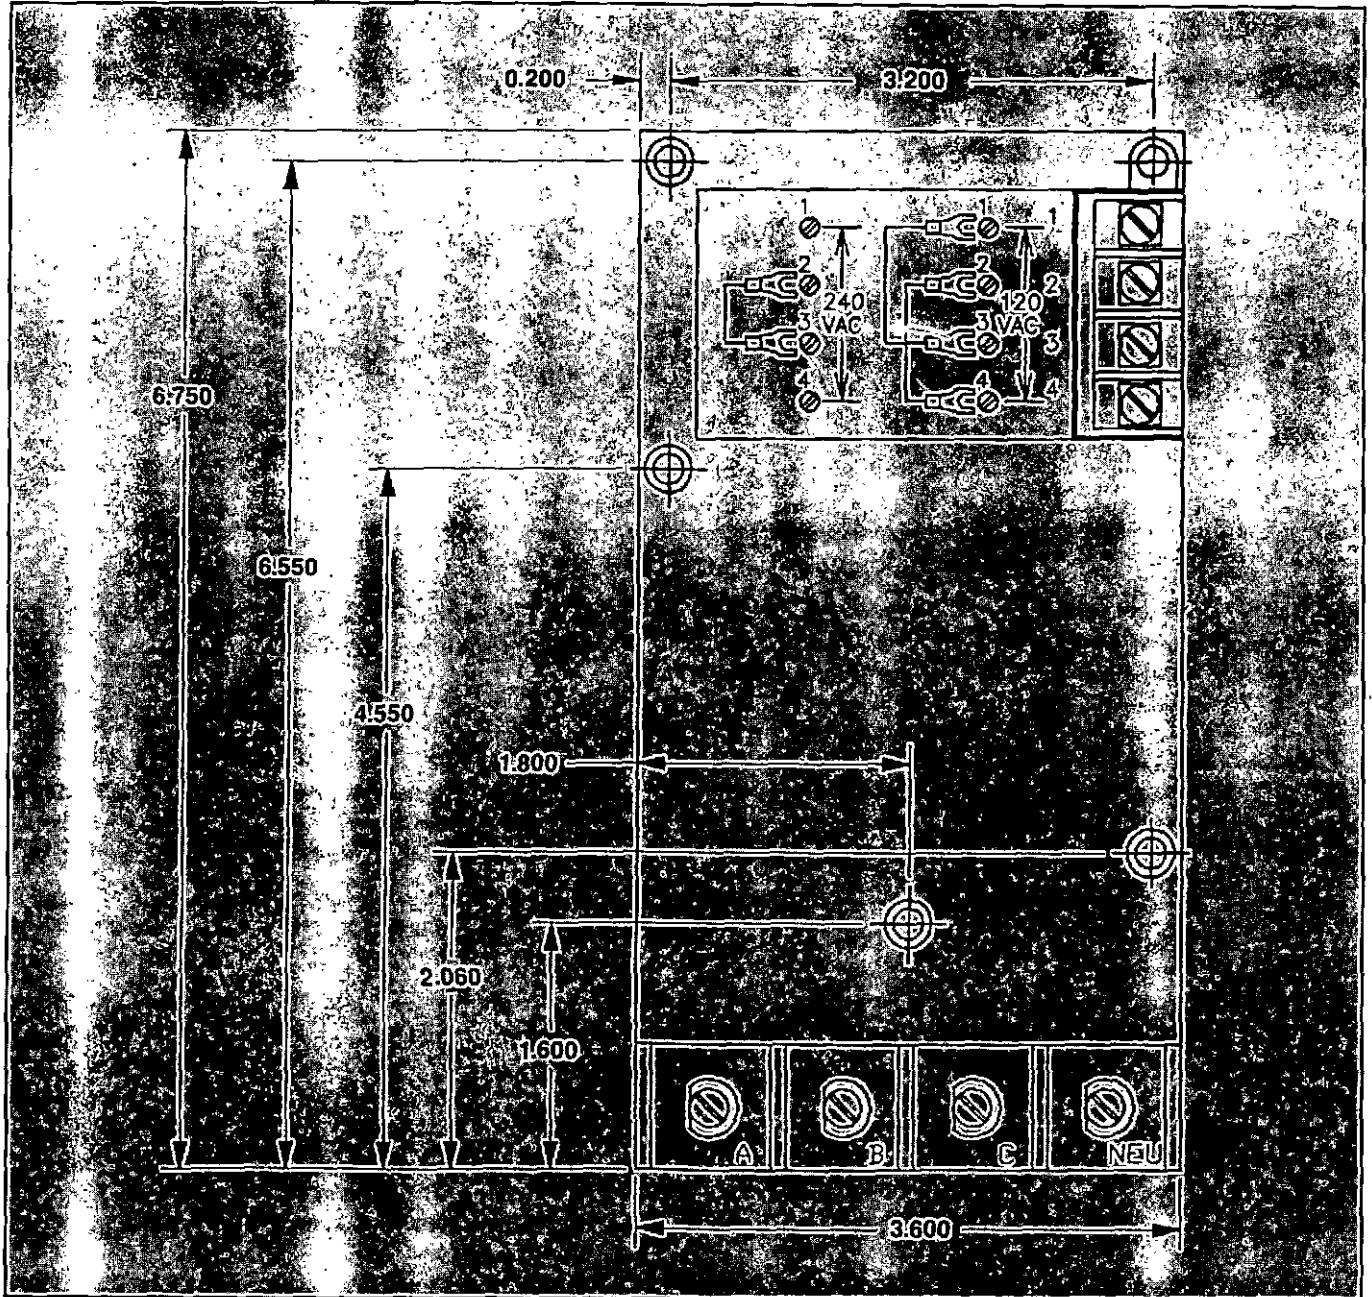

Figure 4.2B — Removable Separate Source Power Supply Module
**The IQ Data Plus II with Separate Source Power Supply Module does not include a Voltage Selector Jumper. (Compare Figures 4.2B and 4.3.)**